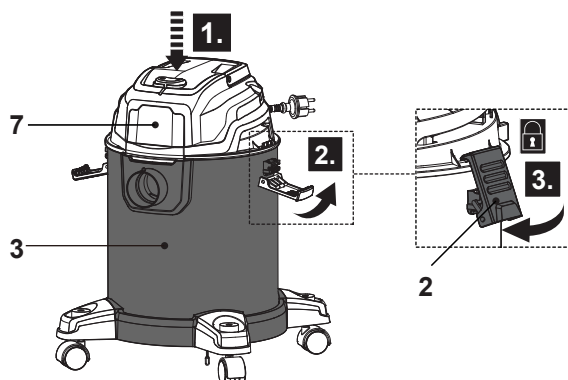

Fig. 7
- > Place the motor unit (7) with cartridge filter (18) onto the tank (3) and secure it with the plastic clasps (2) (Fig. 7). Ensure the motor unit sits properly on the tank and the connection is properly sealed.